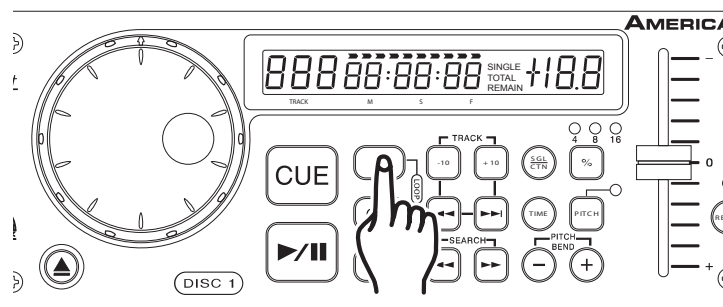

Figure 17
2) Press the LOOP IN BUTTON (4). This will set the starting point of the Loop (figure 17). The LOOP IN BUTTON (2) will blink.